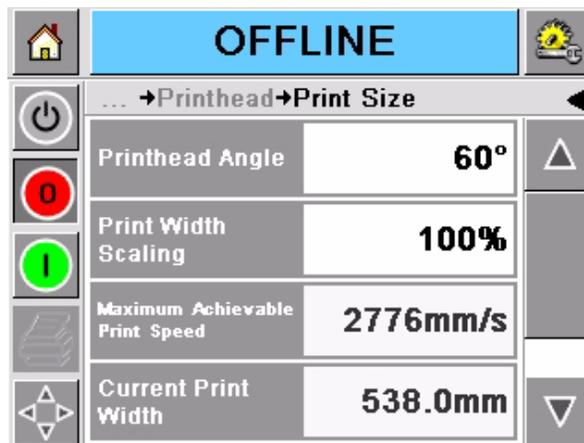

Figure 4-17: Select Printhead Angle
- 3 The *Print Size* page appears (Figure 4-17).
- 1 Go to *Tools > Set up > Printhead > Print Size*. Select *Print Width Scaling* (Figure 4-17 on page 4-17).